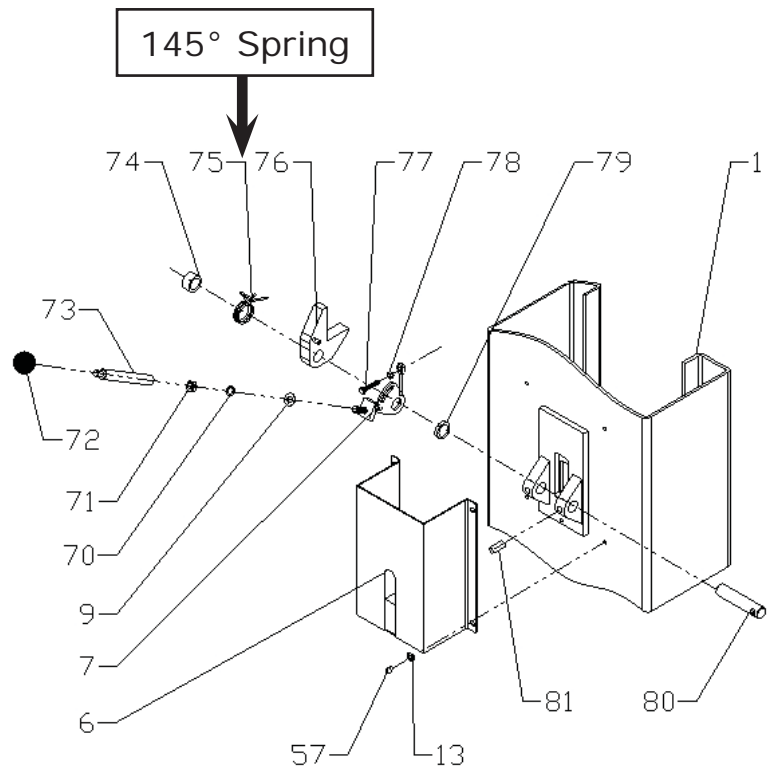
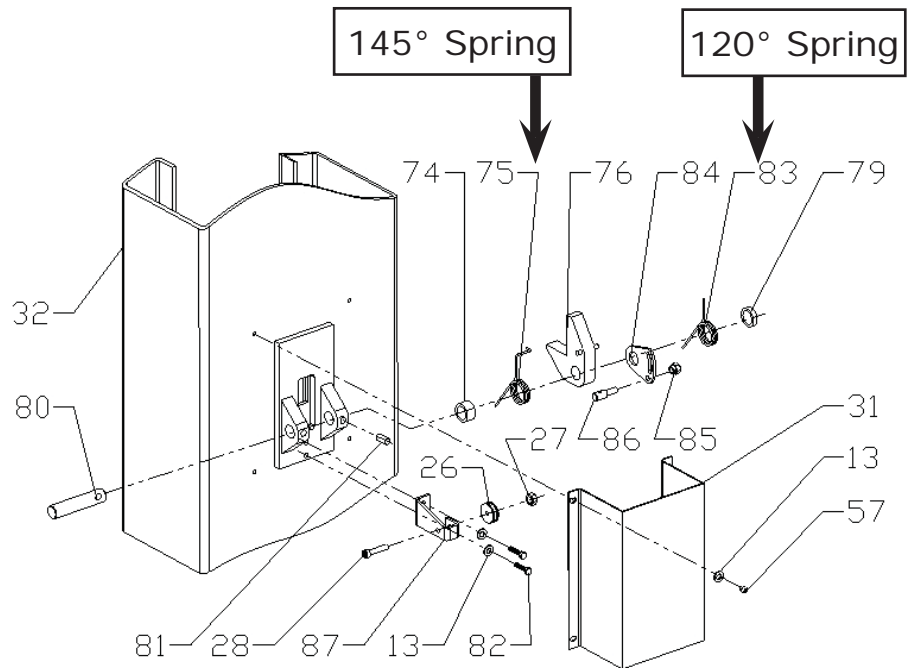

Fig. 24 Power side safety device
Fig. 25 Offside safety device
J. Install safety device (See Fig. 24 & Fig. 25).